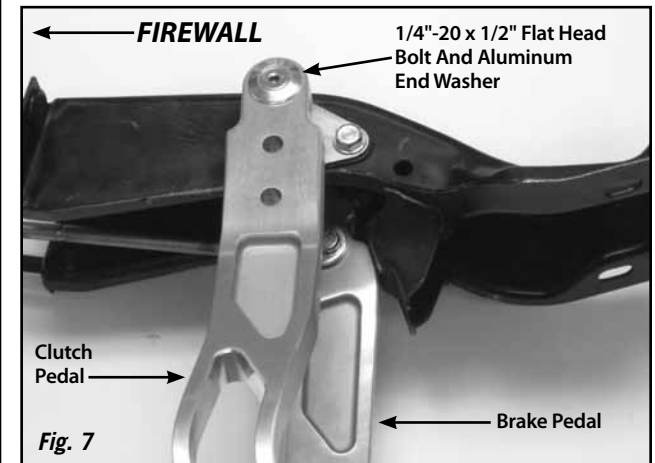

Fig. 7
Step 4: Install the clutch pedal onto the left hand end of the splined shaft. Install the 1/4"-20 x 1/2" flat head bolt and the aluminum end washer onto the left hand end of the splined shaft. **Fig. 7**